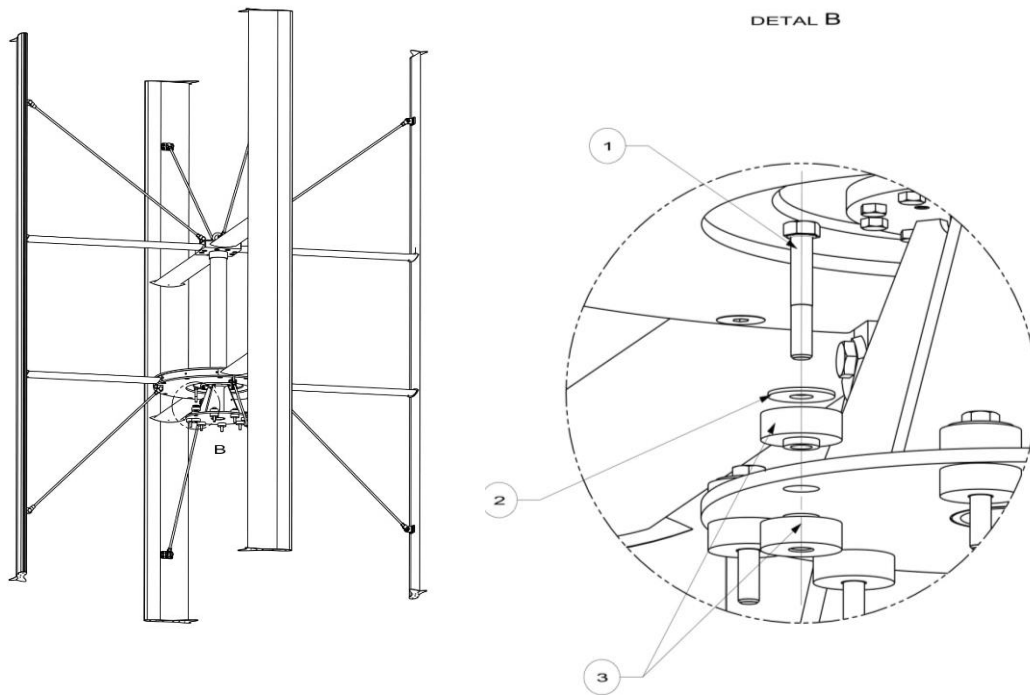

FIGURE 11
- 4** Place the turbine on the supporting structure so that the M12x70 bolts fit into the holes shown in Fig. 11.